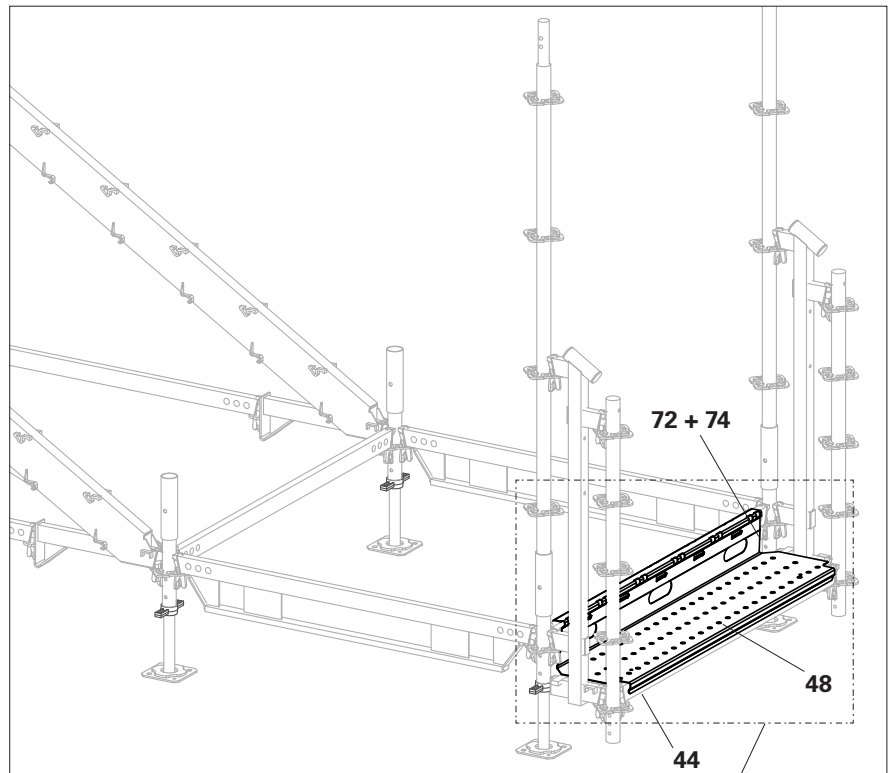
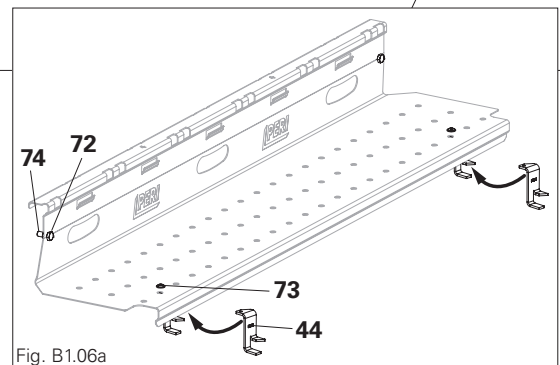

Fig. B1.06
Fig. B1.06a
6. Fit 2 x Lifting Protection PEL (44) to the step in advance with Bolt M8x25 (73).
7. Fit Step PATT 150 top (48).
9. After installation, secure the step on the riser with a bolt (72) and nut (74) to prevent unauthorised removal. (Fig. B1.06 + Fig. B1.06a)